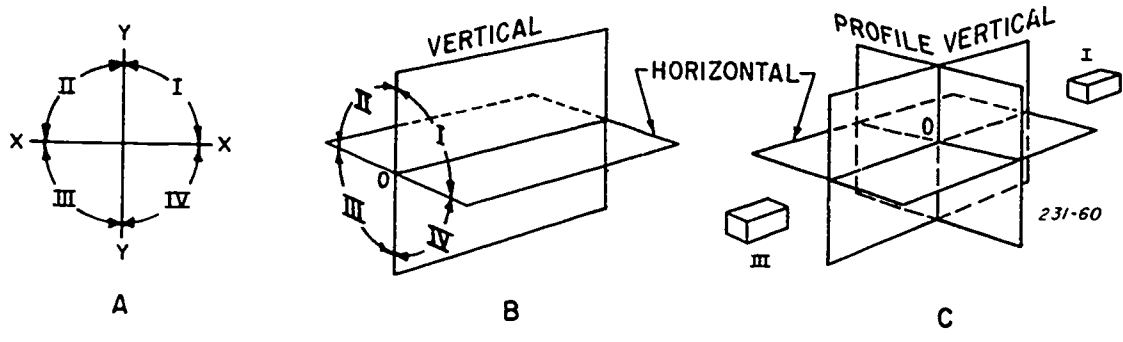

Figure 4-50. Planes and quadrants.
**Planes of Projection.** The three planes used in orthographic projection are the vertical (or frontal) plane, the horizontal plane, and the profile plane. These planes revolve about certain axes to bring the three essential views of a multiview drawing into a single plane. The horizontal plane revolves around the X-axis, and the profile revolves around the Y-axis. The axes are formed by crossing the horizontal and vertical planes, as shown in figure 4-50. The intersection of the horizontal and vertical planes generates four quadrants, known as first, second, third, and fourth angles. An object may be placed in any of the four quadrants and its surfaces projected onto the respective planes.